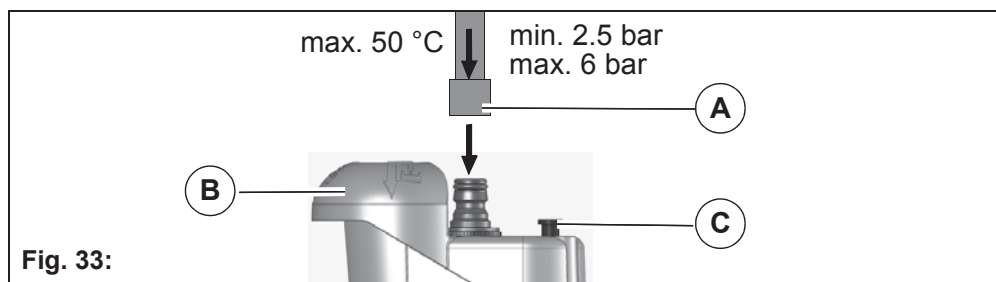

Fig. 33:
1. Fit the hose with the quick coupler **Fig. 33-A**. Do not yet open the water supply!
2. Push the operating button **Fig. 33-B**. The indicator knob **Fig. 33-C** protrudes.
4. The filling unit switches off automatically when the tank is full. The indicator knob **Fig. 33-C** no longer protrudes.
The machine can also be filled manually through the opening in the operating button **Fig. 33-B**.